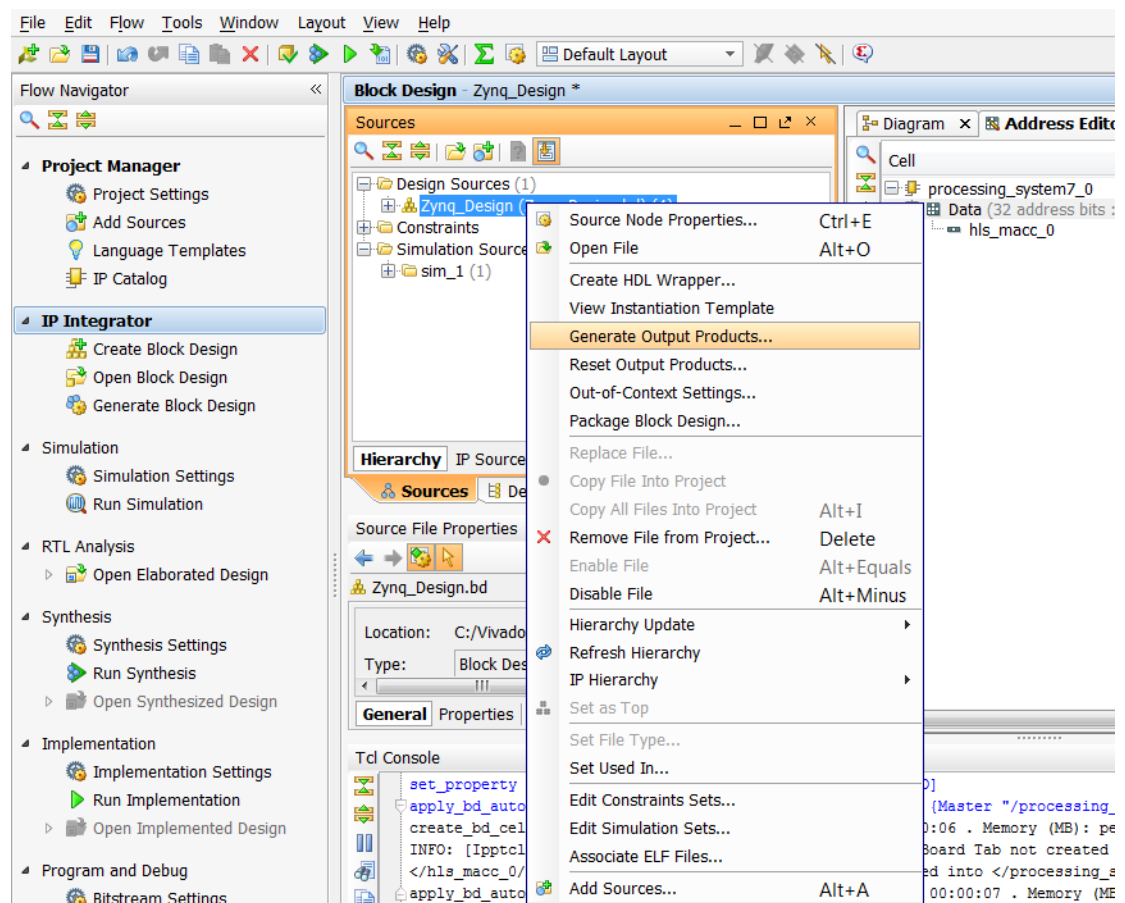

Figure 10-20: Generate Output Products
2. In the Sources browser in the main workspace pane, a Block Diagram object called `Zynq_Design` is at the top of the Design Sources tree view (Figure 10-20). Right-click this object and select **Generate Output Products**.